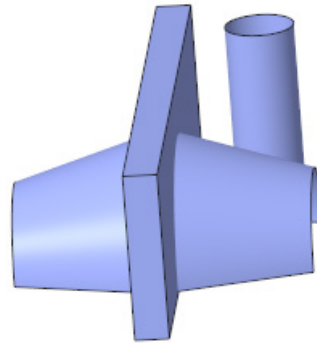

Figure 15-125 Model after creating the fill surface
6. Exit the Sketcher environment and then exit the **Fill** dashboard by choosing the **OK** button. On doing so, the fill surface is created, as shown in Figure 15-125.